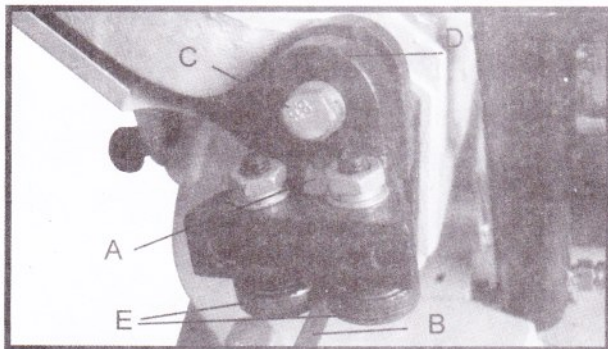

Fig.8
2. The blade support bearing (A) Fig. 8, should be adjusted so it just touches the back of the saw blade after the blade is tracking properly. To adjust, loosen screw (C) and move the bracket (D) up or down until the support bearing (A) just touches the back of the blade (B). Then tighten screw (C).